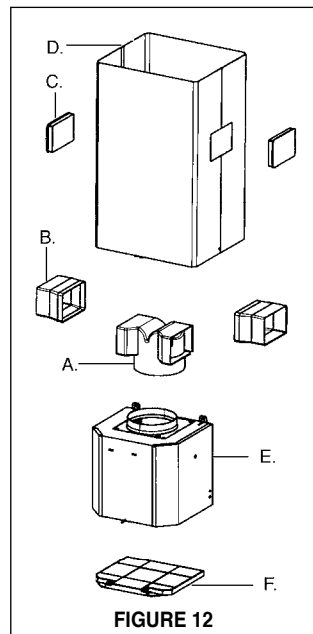
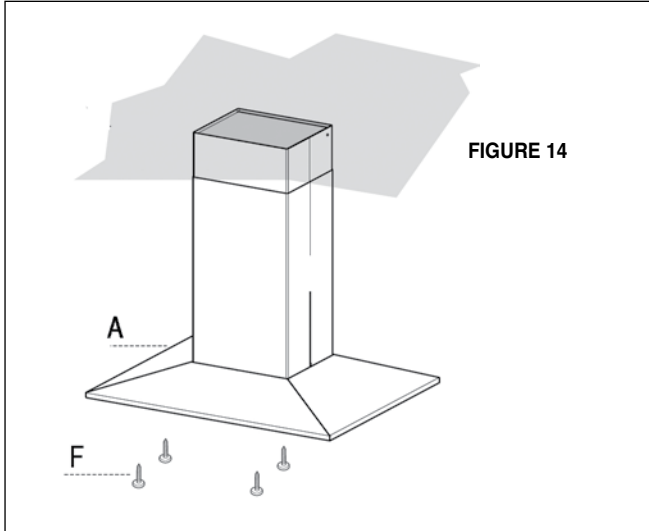
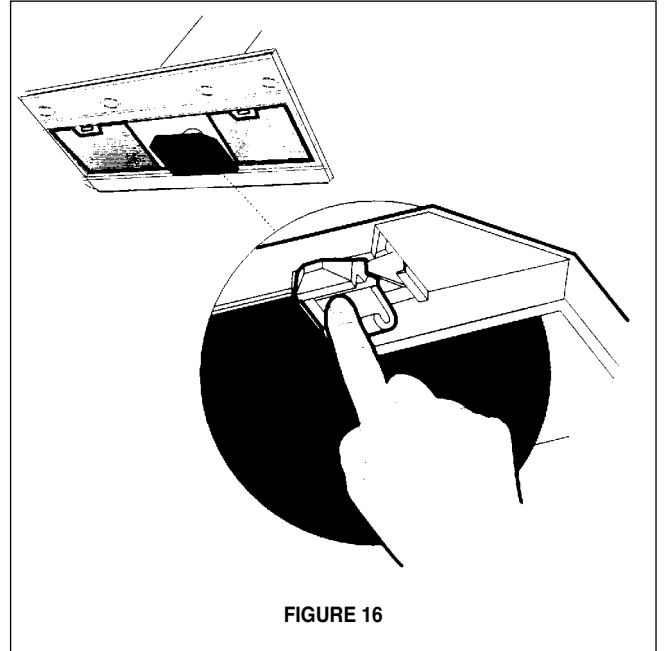

FIGURE 12
FIGURE 14
FIGURE 16
For ductless installations, line up the DUCTLESS DIVERTER EXTENSIONS HORIZONTAL (**B in FIGURE 12**) with the holes in the LOWER CHIMNEY COVER (**D in FIGURE 12**) and snap in the VENT GRIDS (**C in FIGURE 12**).
Ductless installations require a **Ductless Conversion Kit** whose components are pictured in **FIGURE 12**. Do not use the DAMPER (**M in FIGURE 1**) for ductless installations. The LOWER CHIMNEY COVER (**B in FIGURE 1**) should be discarded and replaced by the new one with holes from the **Ductless Conversion Kit (D in FIGURE 12)**.
As indicated in **FIGURE 12**, place the DUCTLESS DIVERTER (**A**) over the exhaust opening of the EASY CUBE (**E**). Fit the DUCTLESS DIVERTER EXTENSIONS HORIZONTAL (**B**) into the DIVERTER (**A**).
4. From below, attach the CANOPY SECTION (A in FIGURE 12) to the assembled chimney support using the four bolts provided (F in FIGURE 14).
- For ductless installations, install the CHARCOAL FILTER (F in FIGURE 12) behind the center grease filter opening by inserting and locking into place. See FIGURE 16